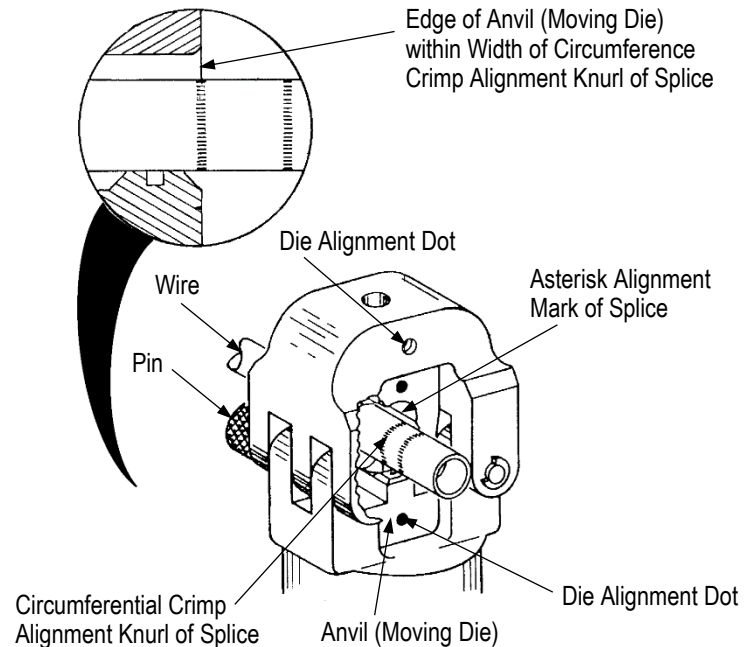

Figure 5
3. Position the splice in the stationary die (nest) so that edge of the die is within the width of the circumferential crimp alignment mark of the splice. The asterisk alignment mark on the splice must be inside the die, facing up, and in alignment with the alignment dot of the die. See Figure 5.
6. To crimp the other wire barrel of the splice, rotate the splice or crimping head 180 degrees, and position the splice in the die so that the asterisk alignment mark on the splice is inside the die, facing up, and in alignment with alignment dot of the die. See Figure 5. Follow the same steps used to crimp the first wire barrel (steps 1 through 5).
2. Position the splice in the stationary die (nest) so that edge of the die is within the width of the circumferential crimp alignment mark of the splice. The asterisk alignment mark on the splice must be inside the die, facing up, and in alignment with the alignment dot of the die. See Figure 5.
7. To crimp the other wire barrel of the splice, rotate the splice or crimping head 180 degrees and position the splice in the die so that the asterisk alignment mark on the splice is inside the die, facing up, and in alignment with alignment dot of the die. See Figure 5. Follow the same steps used to crimp the first wire barrel (Steps 1 through 5).